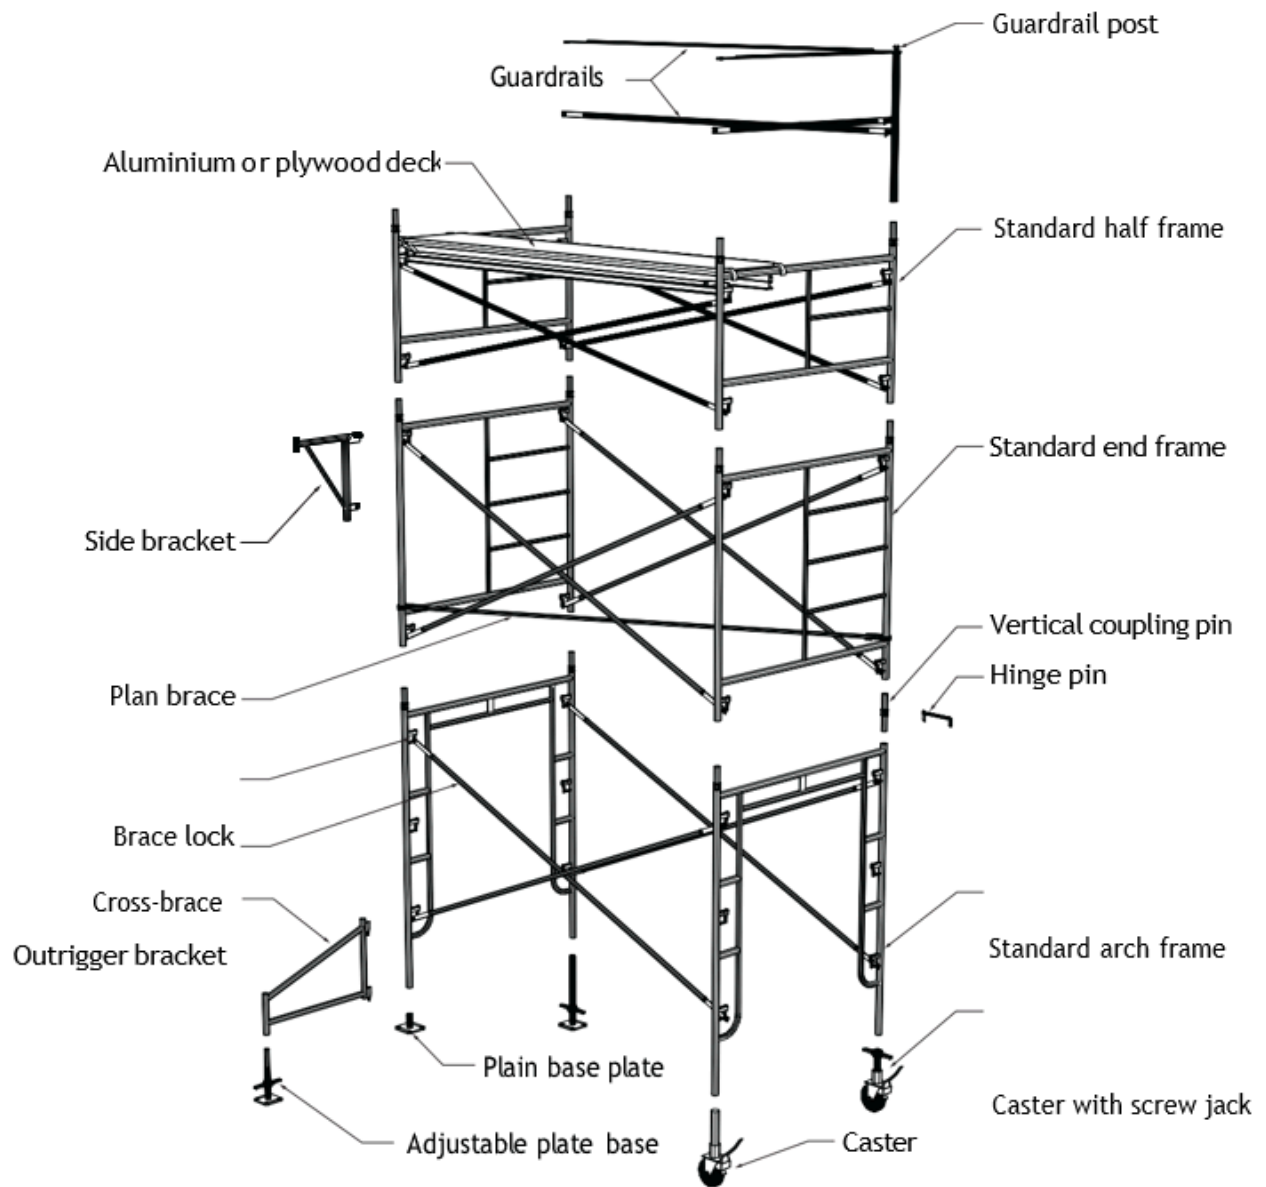

Figure 2 Welded steel frame scaffold (Courtesy WorkSafeBC). CC BY-NC-SA 4.0 (<https://creativecommons.org/licenses/by-nc-sa/4.0/>)
- Fill the spaces between the cleats with close-fitting, well-secured **fillers**, of the same thickness as the cleats (Figure 2).